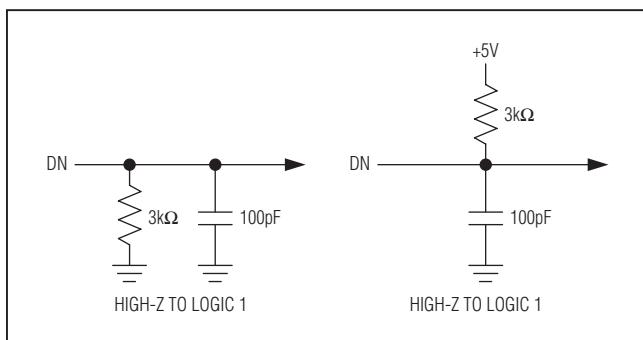

Figure 1. Load Circuit for Access Time Test
**Note 6:** Timing specifications guaranteed by design. All input control signals specified with  $t_R = t_F = 5ns$  (10% to 90% of  $+5V$ ) and timed from a voltage level of  $+1.6V$ . See loading circuits in Figures 1 and 2.